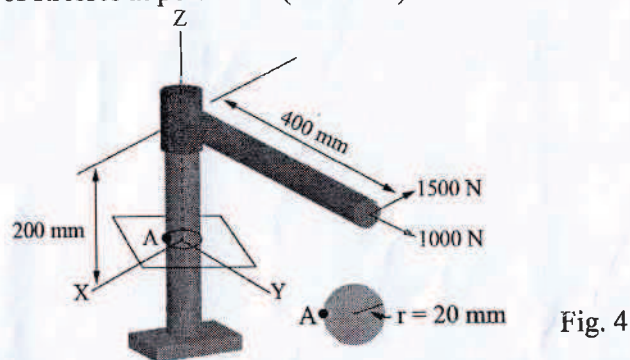

Fig. 4
2. Calculate the state of stresses at point 'A' for a given Fig. 4. Also, draw the representative volume element showing the state of stresses at point 'A'. (Marks: 6)